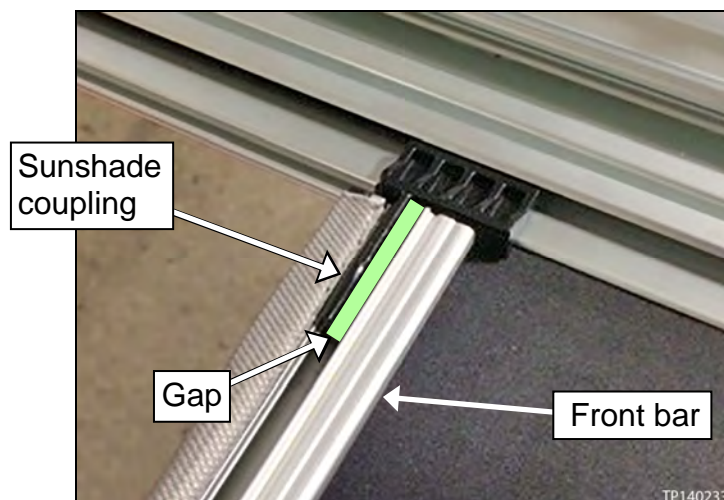

Figure 17
- If snapped in properly, there should be approximately 1/8 inch gap (see Figure 17).